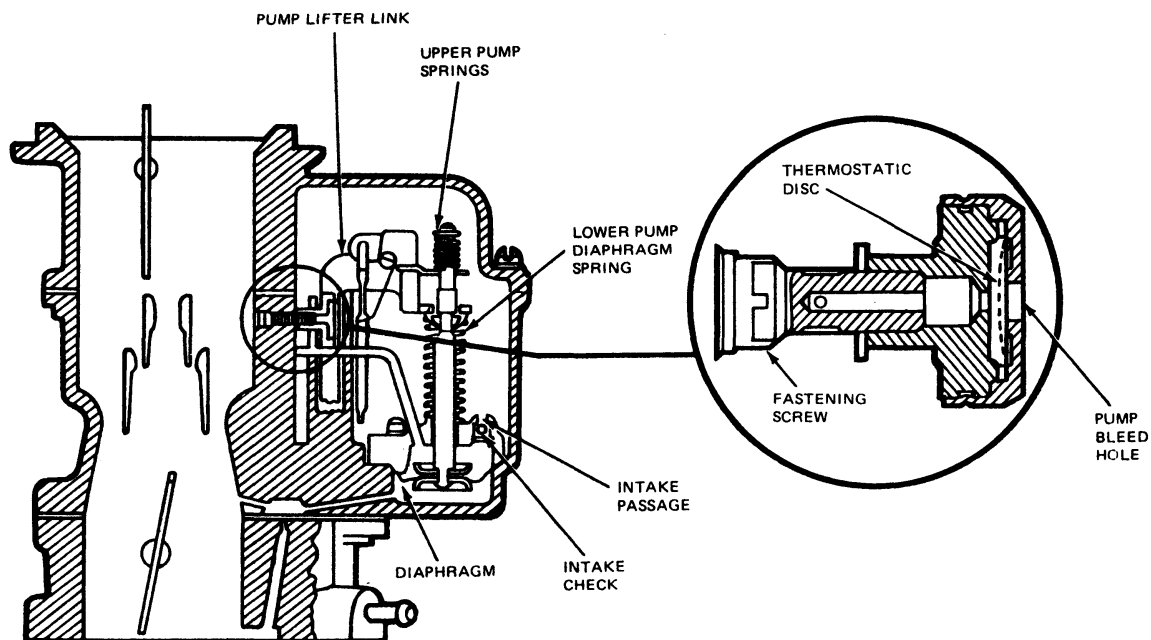

FIG. 2 Temperature Compensated Accelerator Pump System
The main body contains the temperature compensated accelerator pump (Fig. 2). The temperature compensated pump has a thermostatic disc designed to open and close within a specified temperature range. As the disc warms to a temperature of 71°F and above, it uncovers a calibrated pump bleed hole, permitting a portion of the fuel to be returned to the fuel bowl during the pump stroke. As the carburetor temperature drops to 49°F and below, the disc covers the pump bleed and the maximum pump volume is once again delivered to the engine. The main body
2. Turn the fast idle adjusting screw (Fig. 2) inward or outward to obtain the specified rpm.